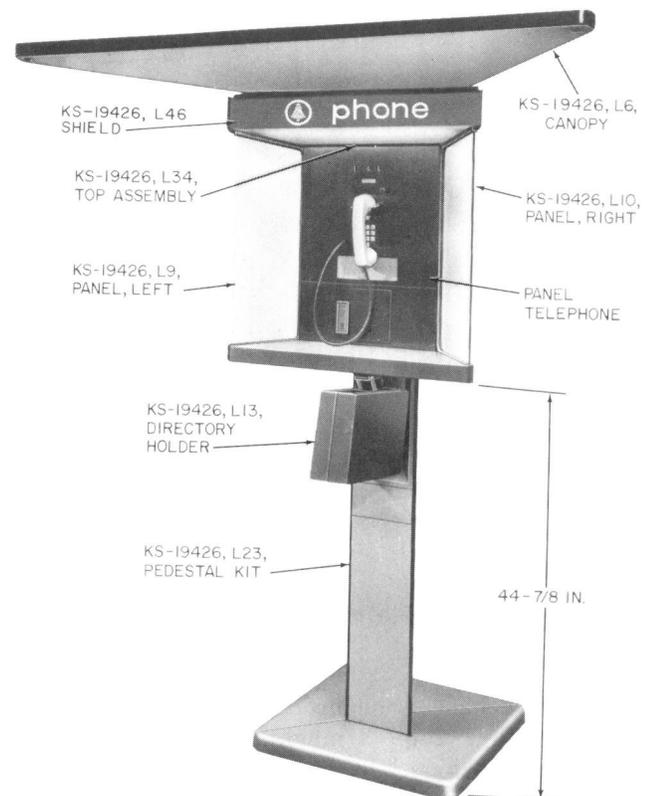

Fig. 1—KS-19426 Mounting for Walk-Up Service
PEDESTAL MOUNTINGS (Fig. 1 and 2)
2.04 List 6 Canopy: Install KS-19426, List 6 canopy (Fig. 1), if required, as follows: